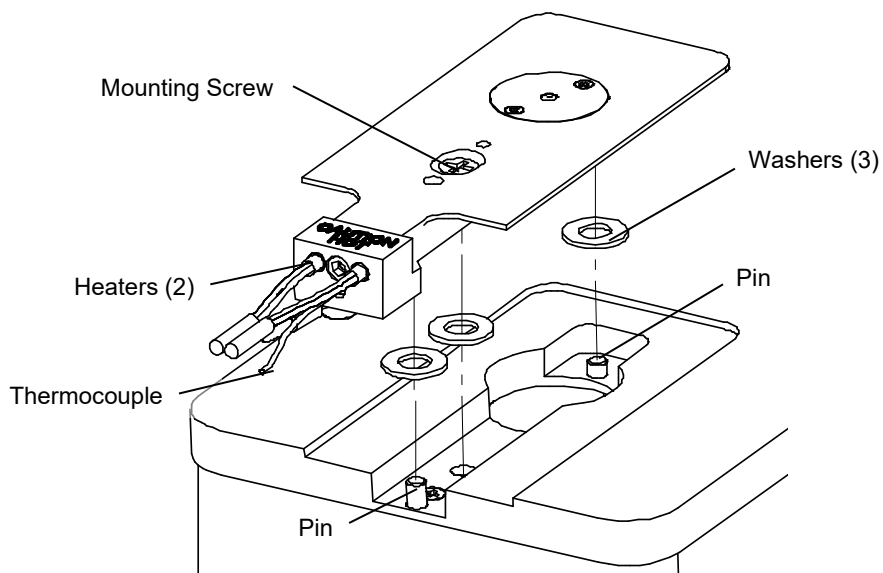

Figure 17 • The Heated ATR Sample Holder
- Using the supplied 7/64" ball driver, loosen and remove the mounting screw on the sampling plate to release the sampling plate (Figure 17).